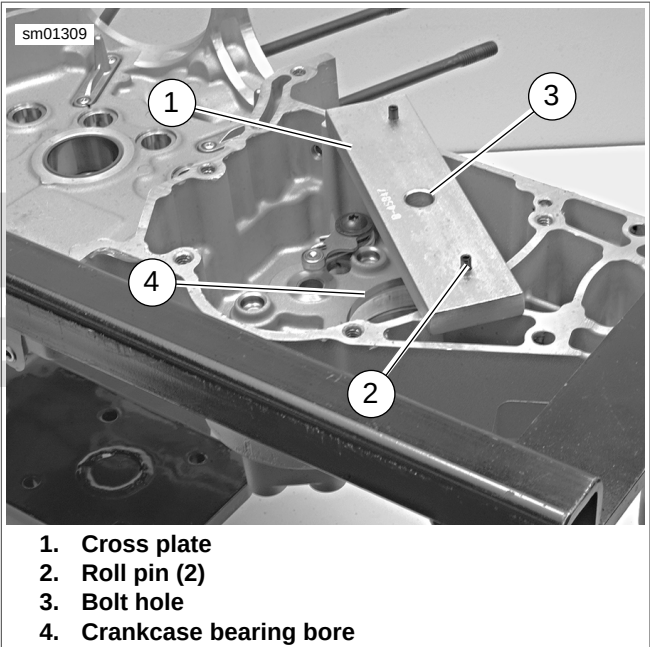

Figure 5-80. Positioning Cross Plate: XL Models
- See Figure 5-80. Place CROSS PLATE (Part No. B-45847) (1) on right crankcase as shown. Position cross plate so that roll pins (2) fit into crankcase mating screw holes and bolt hole (3) in cross plate is centered over crankcase bearing bore (4).